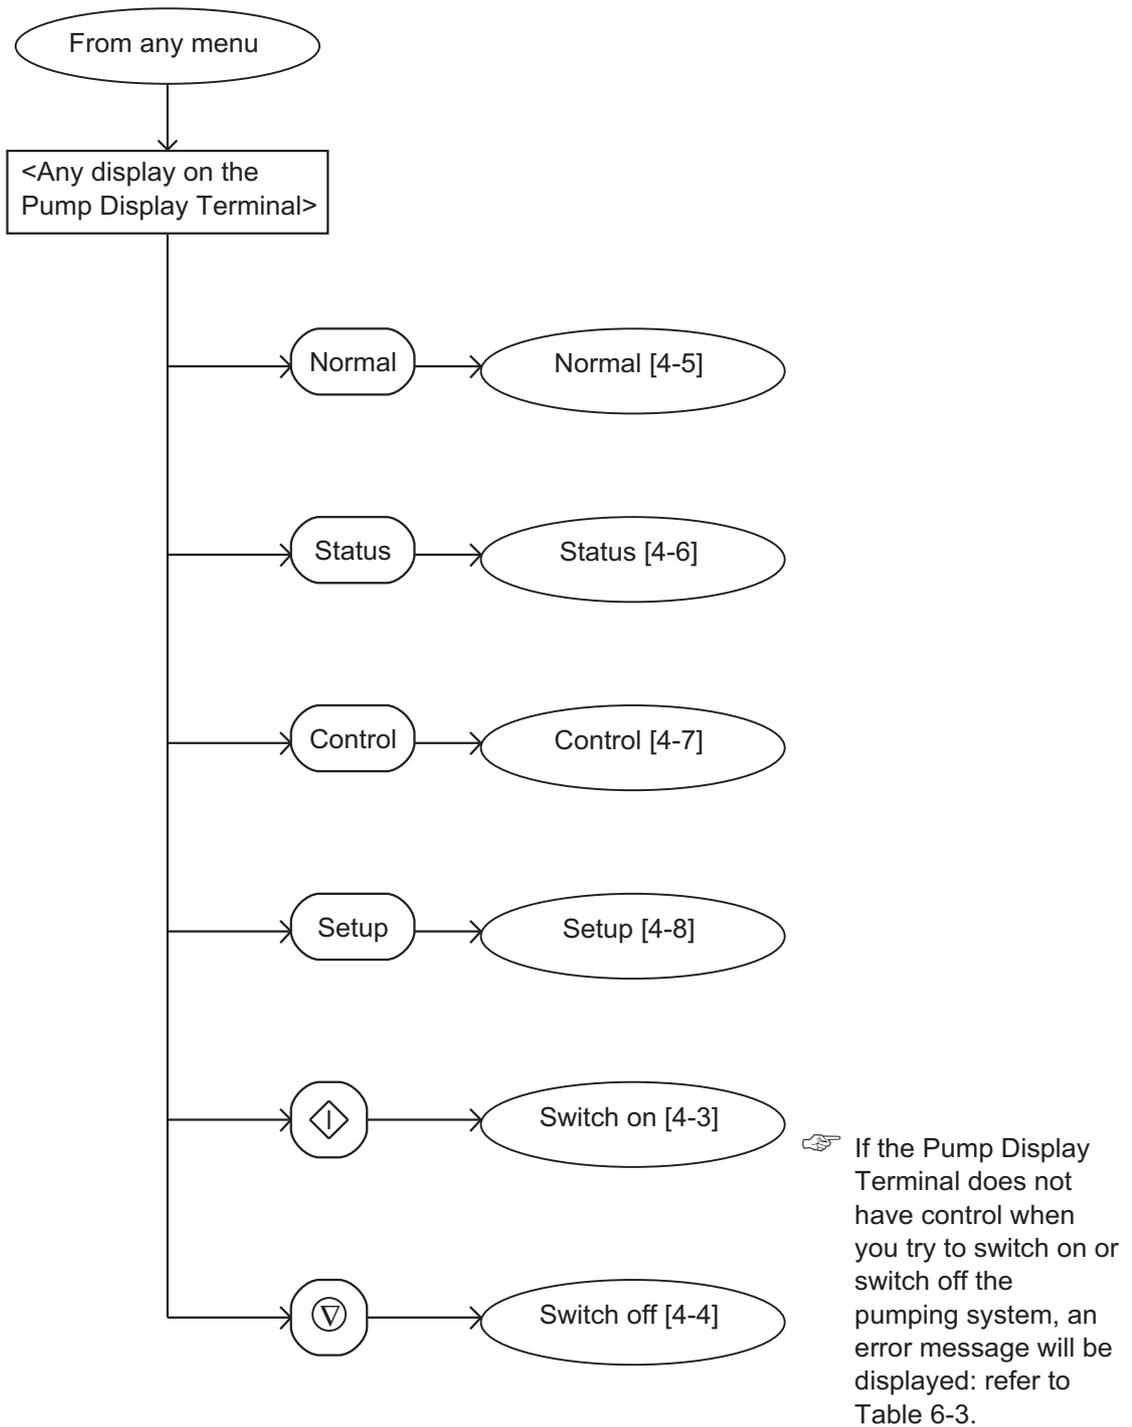

Figure 4-2 - Menu logic
The menus used and the display messages shown on the Pump Display Terminal are described in the menu diagrams in Figures 4-2 to 4-19. The following symbols and conventions are used in the menu diagrams:
When you first switch on the iH system, the normal display is shown: see Figure 4-5. Refer to Figure 4-1. You can then press the On or Off button (1 or 10) or any of the four menu buttons (7) to enter the corresponding menu. Then, regardless of the current menu and display status, when you press any of these buttons, you exit the current menu and enter the corresponding new menu. Figure 4-2 shows this menu control logic.
In the menu diagrams in Figures 4-2 to 4-19, text shown without chevron brackets in the two-line display symbol is the actual text that will be shown on the display. In this text, the ' $\Delta$ ' symbol is used to show where a digit will be shown; the value of the digit depends on the sensor data or information you enter into the Pump Display Terminal.